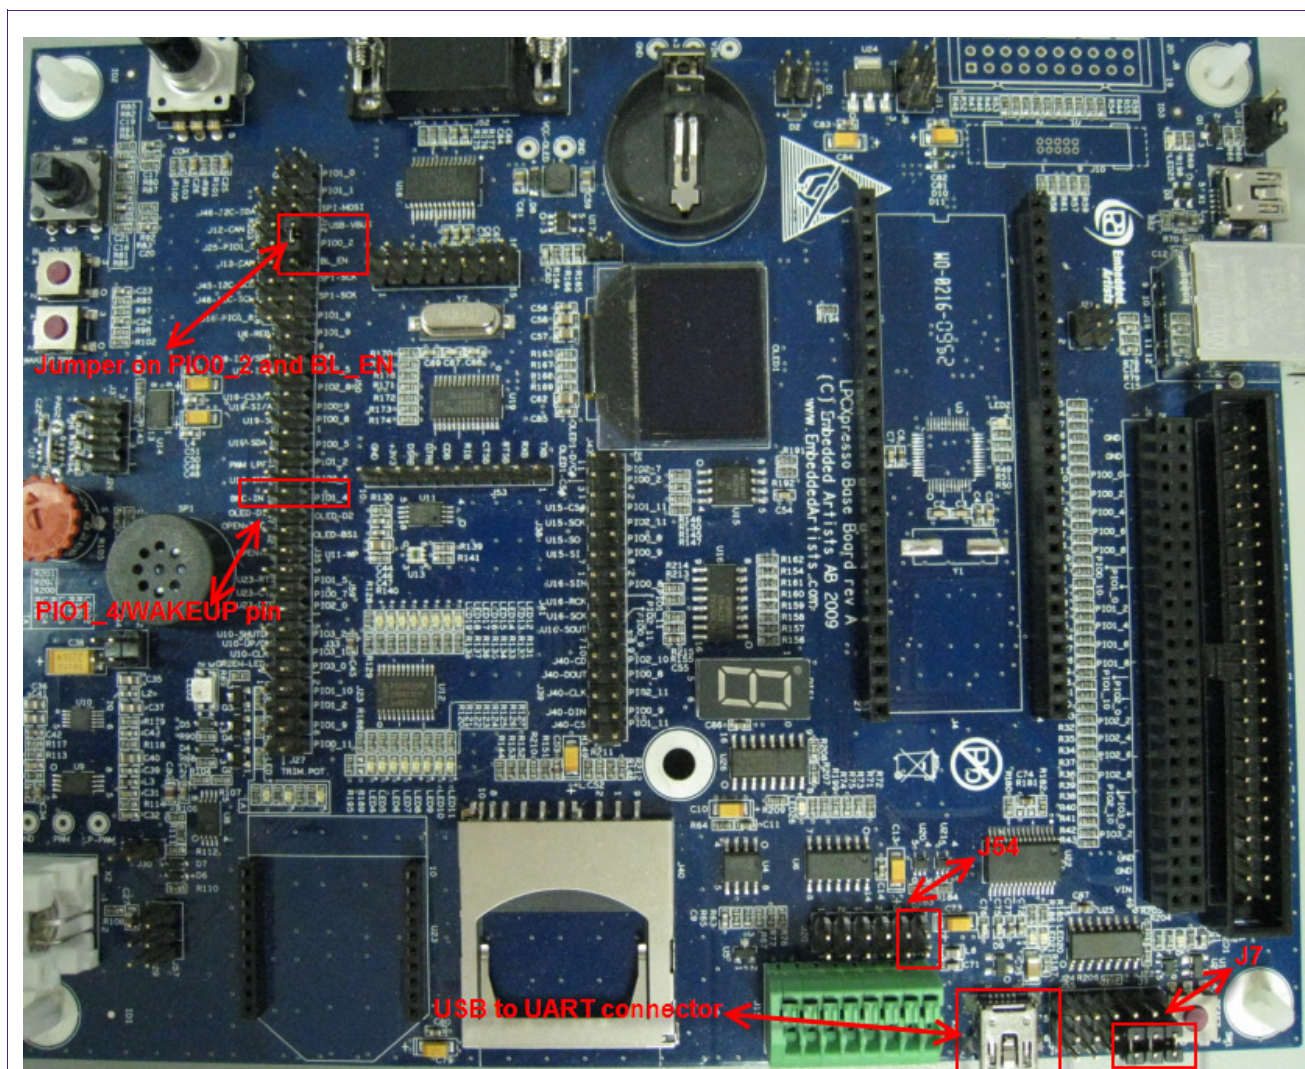

Fig 12. LPCXpresso Base Board board
See Fig 12 below for complete jumper set-up on the LPCXpresso base board.
9. Connect a USB cable to the USB to UART connector. (on the LPCXpresso Base Board). See Fig 12.